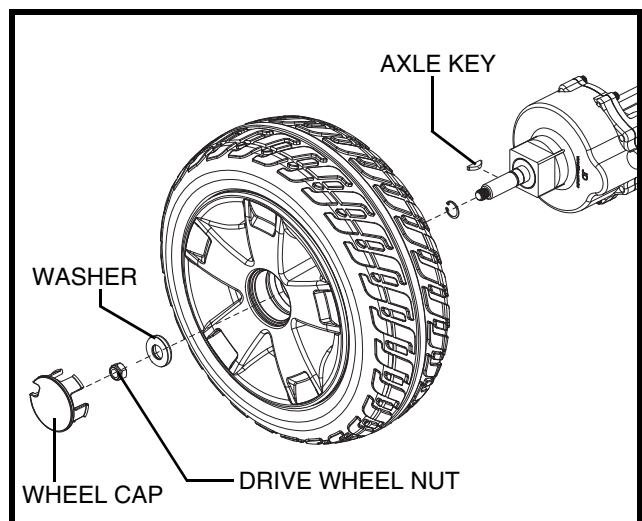

Figure 22. Solid Tire Wheel Removal
3. Remove the wheel cap, drive wheel nut, and washer from the axle. **See figure 22.**